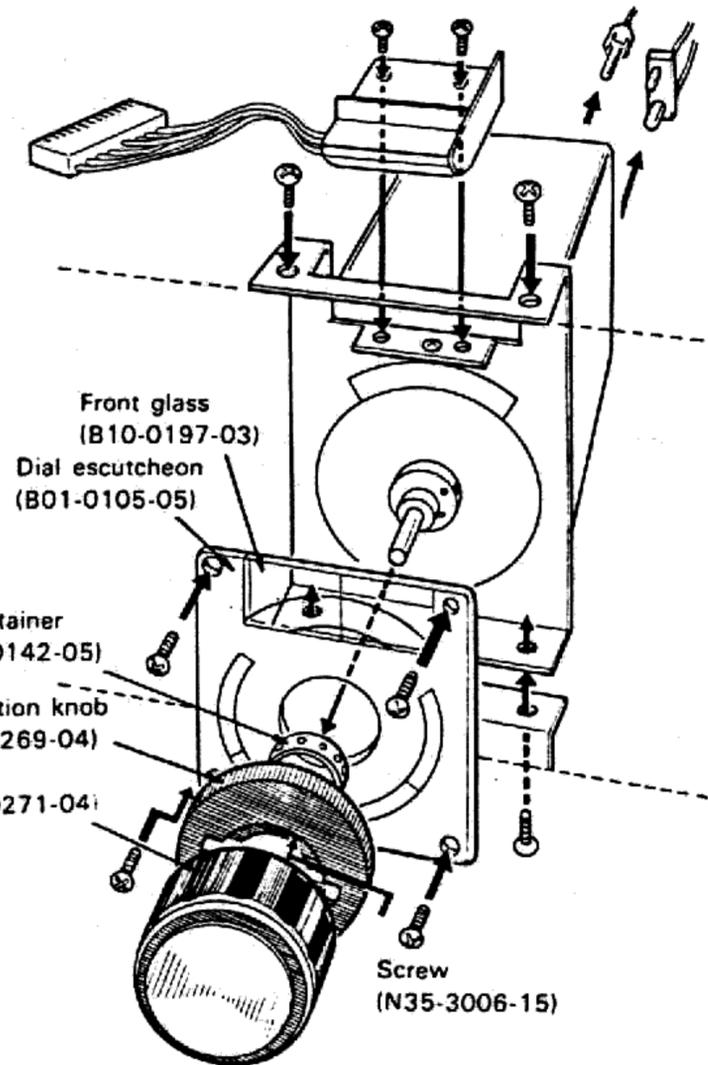

Fig. 14 Removing VFO
- 2) Remove the dial escutcheon and front glass according to Fig. 14.
- 3) Remove the four mounting screws from the VFO unit and subchassis of the body front according to Fig. 14.
- 1) Remove the knob and dial escation as shown in Fig. 14.
- 6) Install the dial escation and knob as shown in Fig. 14.